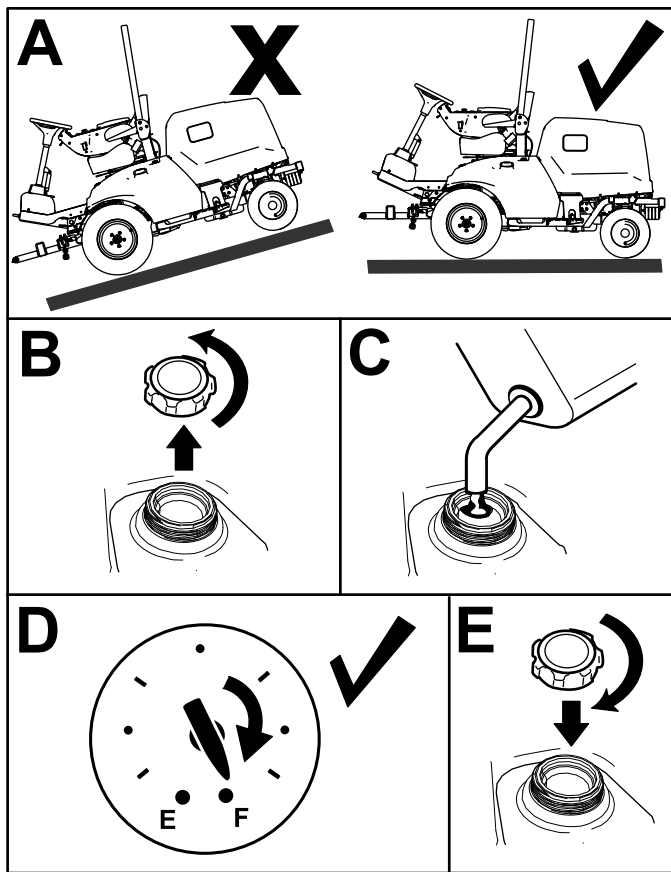

Figure 32
1. Park the machine on a level surface (Figure 32), engage the parking brake, shut off the engine, and remove the key